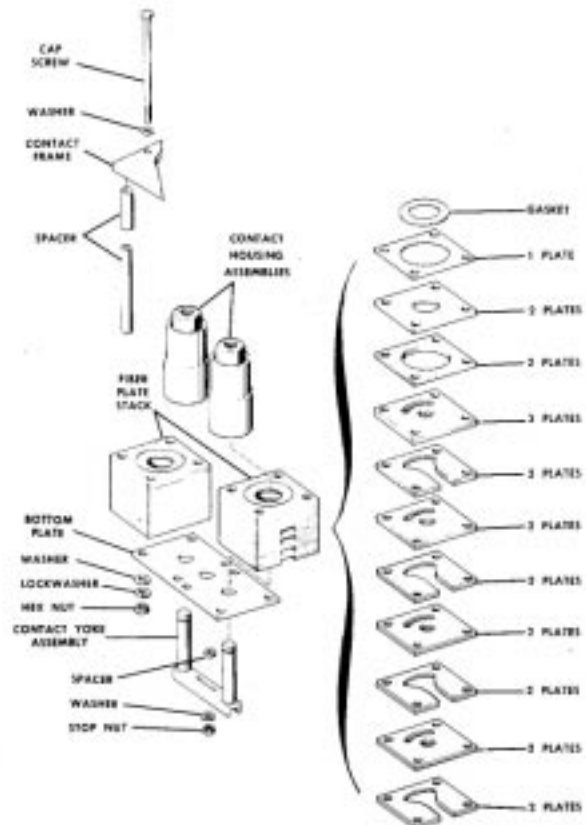

Figure 9
4. Slide the arc interrupter assembly downward. Figure 9 shows the individual parts in the order of removal.
10. Refer to figure 9 and reassemble the interrupter in the following order:
- a. Place the fiber plates in two stacks on top of the bottom plate, in the order shown in figure 9. Make sure that the gasket is included. The exhaust ports open to the outside of the assembly.